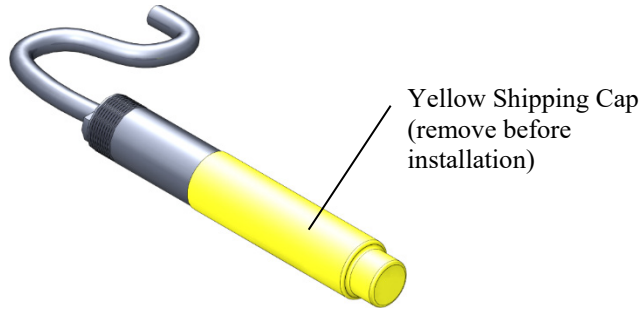

FIGURE 7-1. HMP60 as shipped
1. Pull off the yellow shipping cap (see FIGURE 7-1).